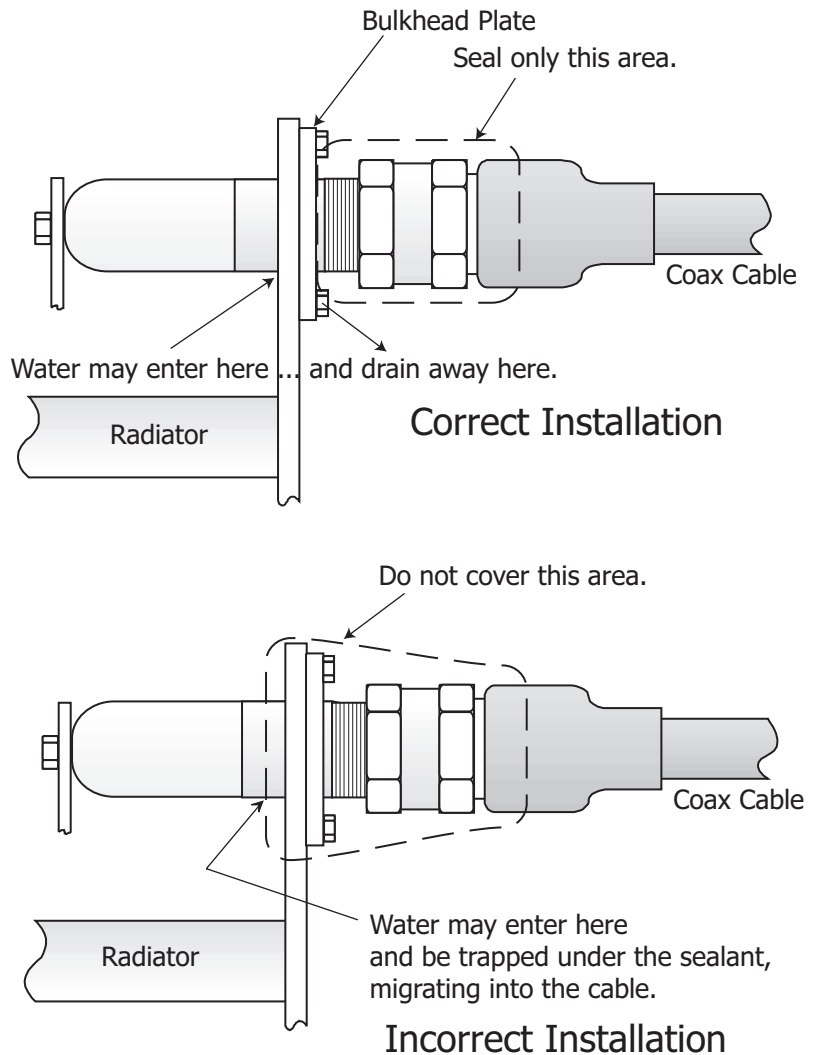

Figure 6. Proper and improper application of splicing tape
- d. Make sure the fittings and coax are clean and dry. Apply Scotch 130C Linerless Rubber Splicing Tape with the tacky side up (see Figure 6 on page 6).